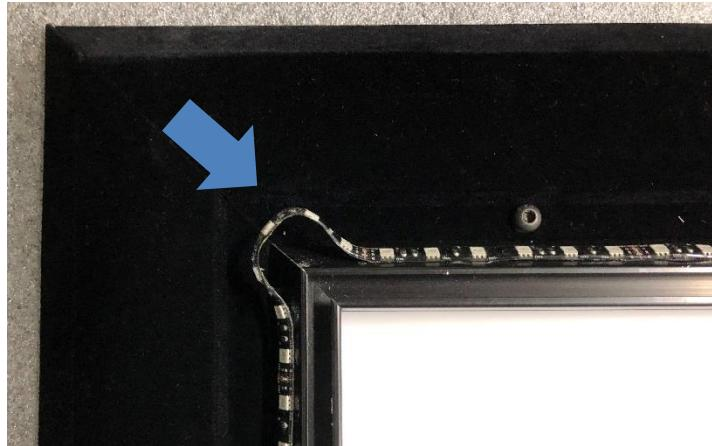

Figure 5: Corner loop for LED coverage
4. Once you reach the corner/turn on the frame, make a wide loop with the LED strip so that at least 4-5 LED diodes are hanging off of the corner to even out the light field coverage (see Figure 5).